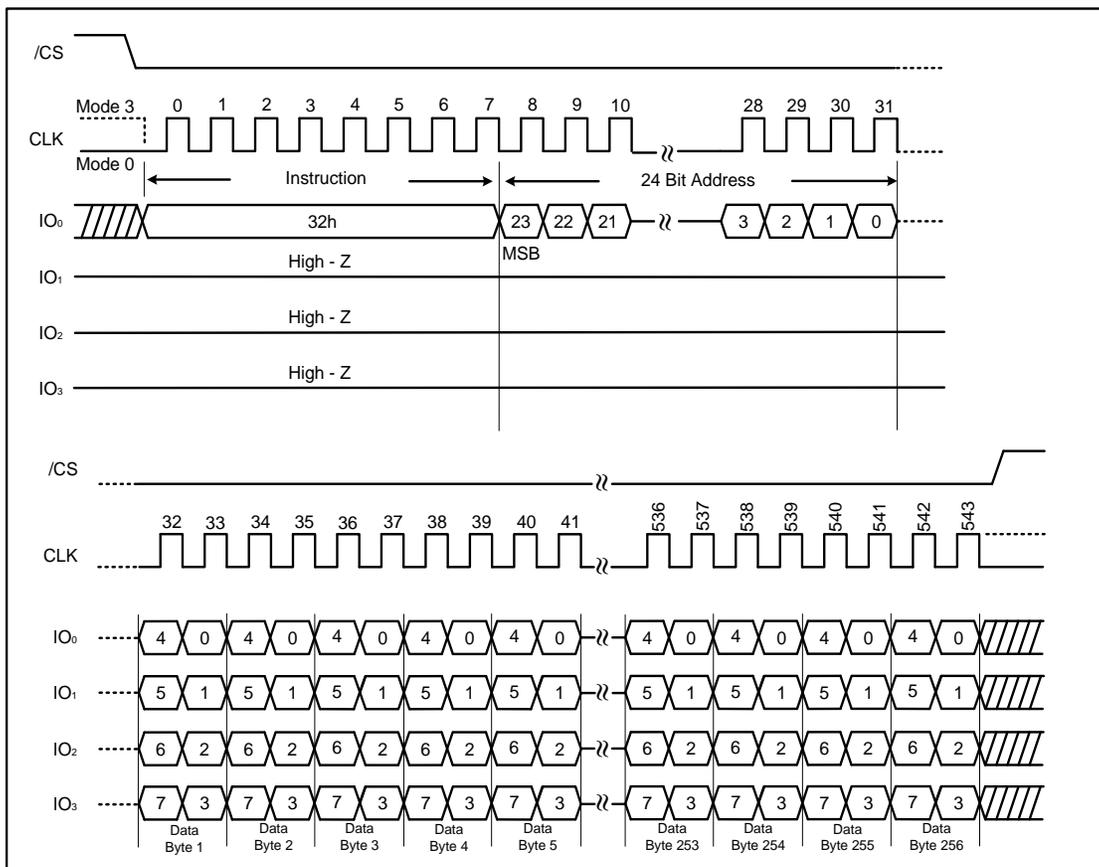

Figure 27. Quad Input Page Program Instruction (SPI Mode only)
To use Quad Input Page Program the Quad Enable (QE) bit in Status Register-2 must be set to 1. A Write Enable instruction must be executed before the device will accept the Quad Input Page Program instruction (Status Register-1, WEL=1). The instruction is initiated by driving the /CS pin low then shifting the instruction code “32h” followed by a 24-bit address (A23-A0) and at least one data byte, into the IO pins. The /CS pin must be held low for the entire length of the instruction while data is being sent to the device. All other functions of Quad Input Page Program are identical to standard Page Program. The Quad Input Page Program instruction sequence is shown in Figure 27.